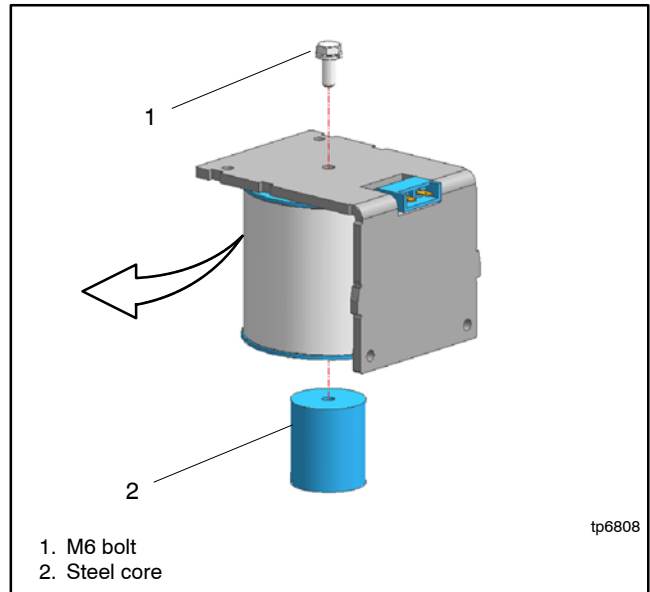

Figure 7-21 Coil Removal
3. Remove the M6 bolt holding the steel frame and the steel core. Remove the coil from the steel frame. See Figure 7-21.